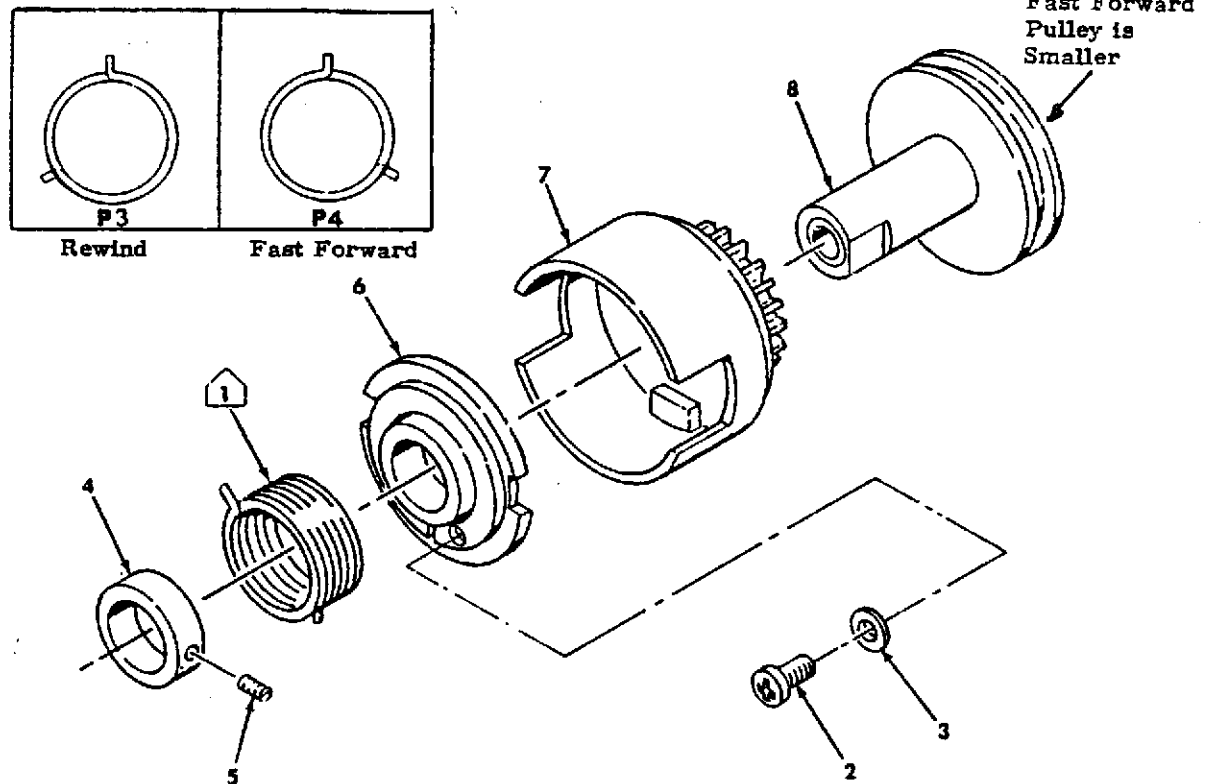

Figure 3-87. REWIND and FAST FORWARD CLUTCH REASSEMBLY
- a. Lubricate the outside diameter of the shaft of the Pulley Assembly (8) and assemble the Gear (7) and the Drum (6) to the shaft as shown (Figure 3-87)
- b. Seat the notches of the Drum (6) over the raised lugs inside the Cup Gear (7).
- c. Assemble the Arbor (4) on the shaft of the Pulley (8) and tighten the Setscrew (5) in the notch in the end of the shaft allowing for end play of .005" to .010".
- d. Apply three or four small drops of Teresso Instrument Oil (39479-P8) on the Arbor (4) and push the Spring (1) over the Arbor until it is seated on the Drum (6) with its tail trapped in the slot in the Drum.
- e. Assemble Screw (2) and Washer (3) to the Drum (6) trapping the tail of the Spring (1) permanently in the slot of the Drum (6).